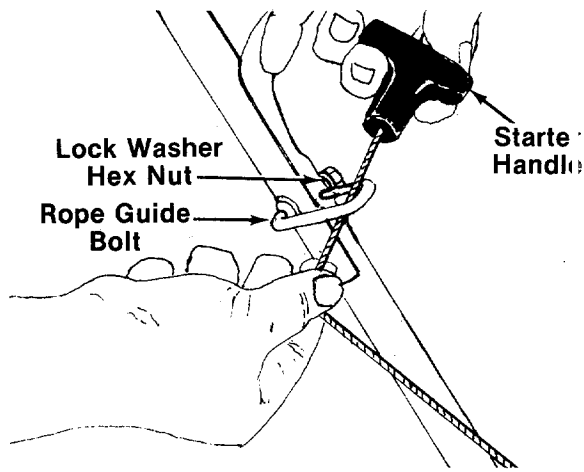

FIGURE 12.
2. Slip the starter rope into the rope guide bolt as shown in figure 12. If more slack is needed in the starter rope, disconnect and ground the spark plug wire. Depress the blade control handle and pull additional rope out from the engine.